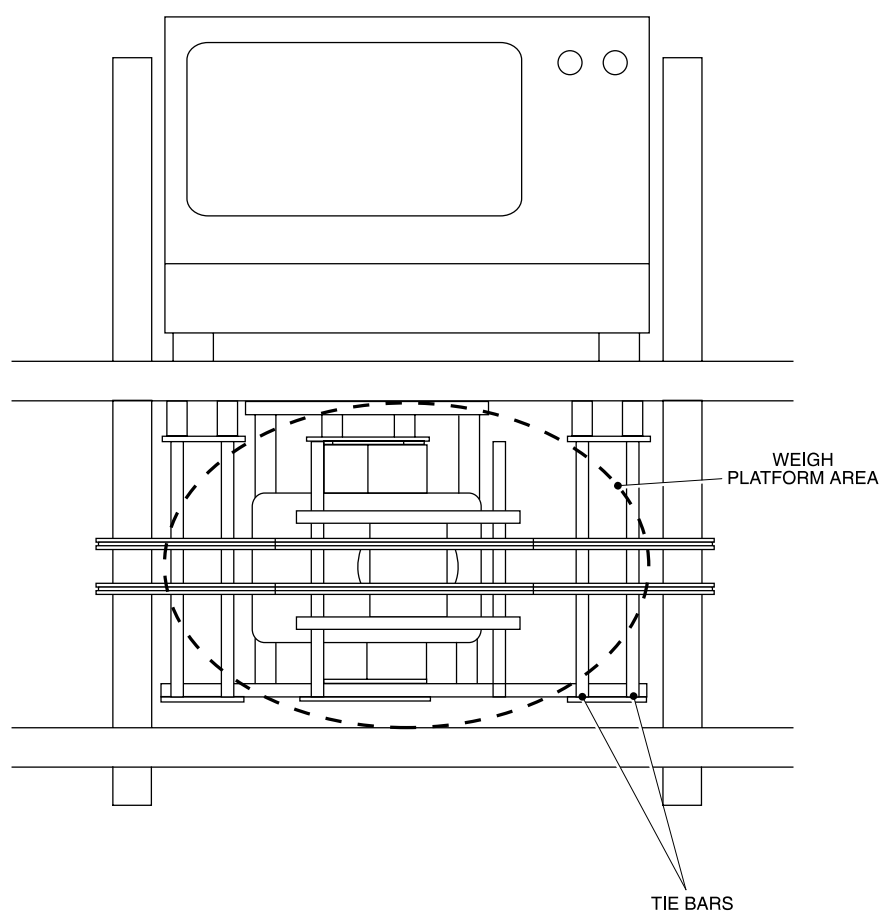

Figure 8.21 Weigh Platform
1. Check that there is no build-up of debris on the weigh platform (see Figure 8.21).